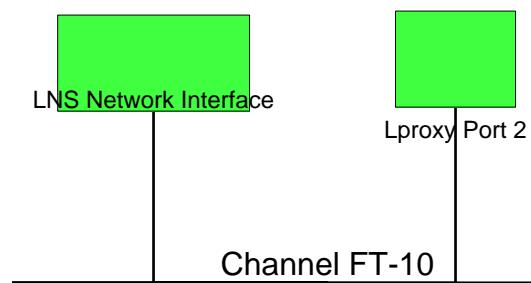

Figure 75: The L-Proxy has been added to the drawing.
10. Finally, you should get the device added to your drawing as depicted in Figure 75.